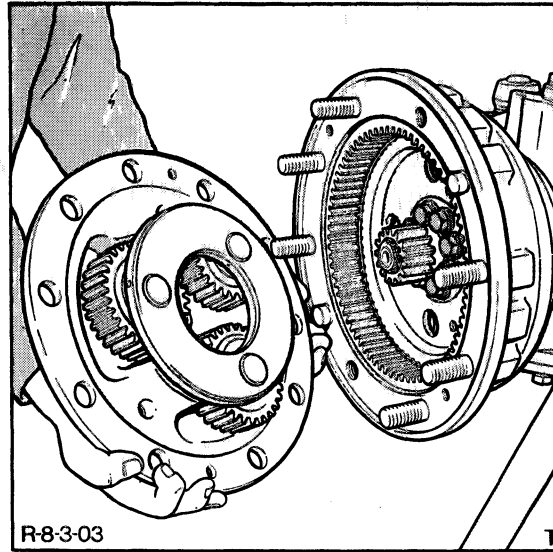

FIGURE 7-52
- Carefully remove the planetary carrier assembly, Figure 7-52. Take care not to misplace the thrust pad positioned in the center of the carrier.